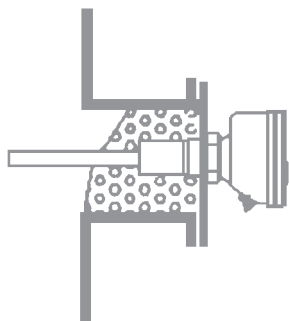

Figure 2
3. Install the unit in this way that the vibrating part is entirely free to vibrate. When the vibrating rod is fully blocked by medium, the unit will not change status of the relay. See **Figure 2**.